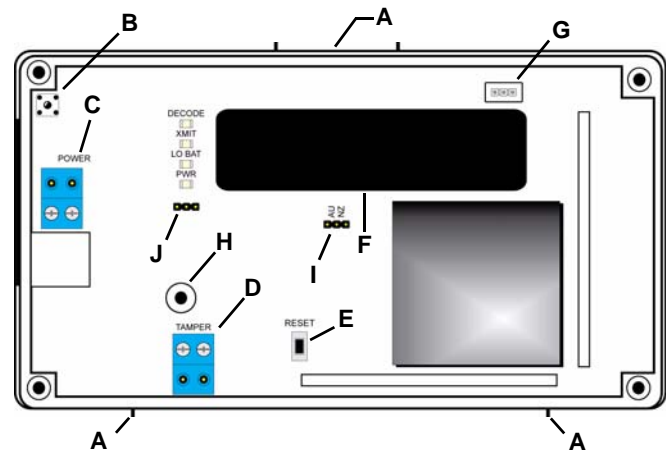

Figure 2 High power repeater internal components
1. Use a small screwdriver to press the top housing release tab and separate the housing (Figure 2).
2. Place a selection jumper on the frequency band selection pins appropriate to your geographic area (Figure 2).
- Use a small screwdriver to press the housing release tab on the top or bottom of the high power repeater (Figure 2); separate the housing.
- Connect power cabling (Figure 2).
- Plug the connector cable from the backup battery into the battery connector (Figure 2).
- Attach one of the mounting screws to the wall through the tamper mounting hole (Figure 2).